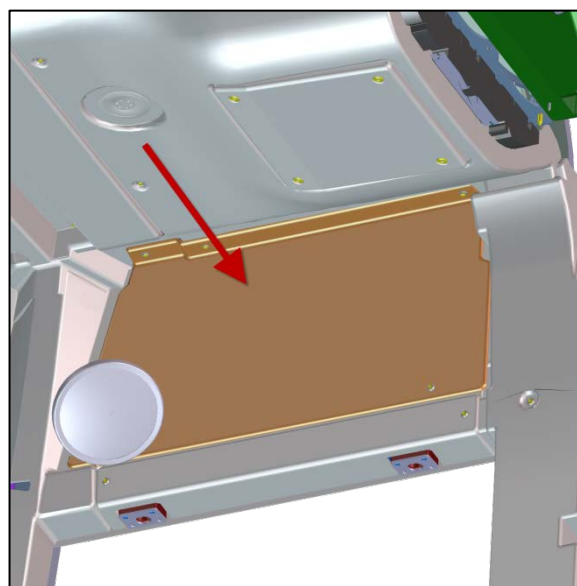

Figure 1
1. Remove closing cap (Figure 1).